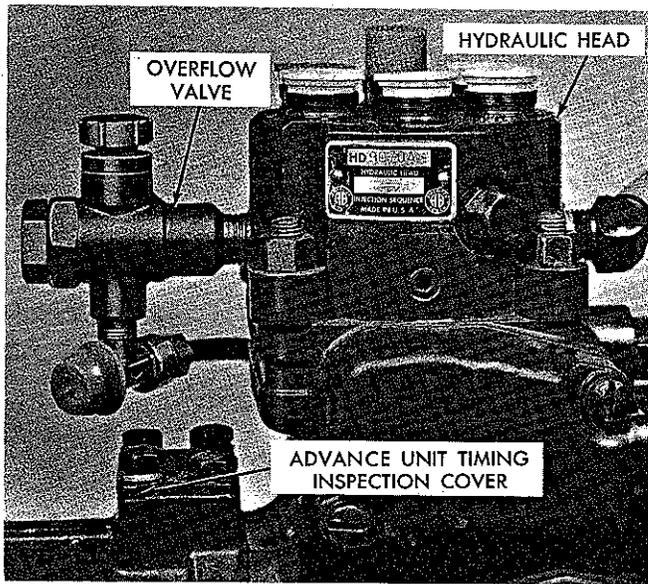

Figure 50
- (1) Remove the injection pump advance unit timing inspection cover plate, Figure 50.